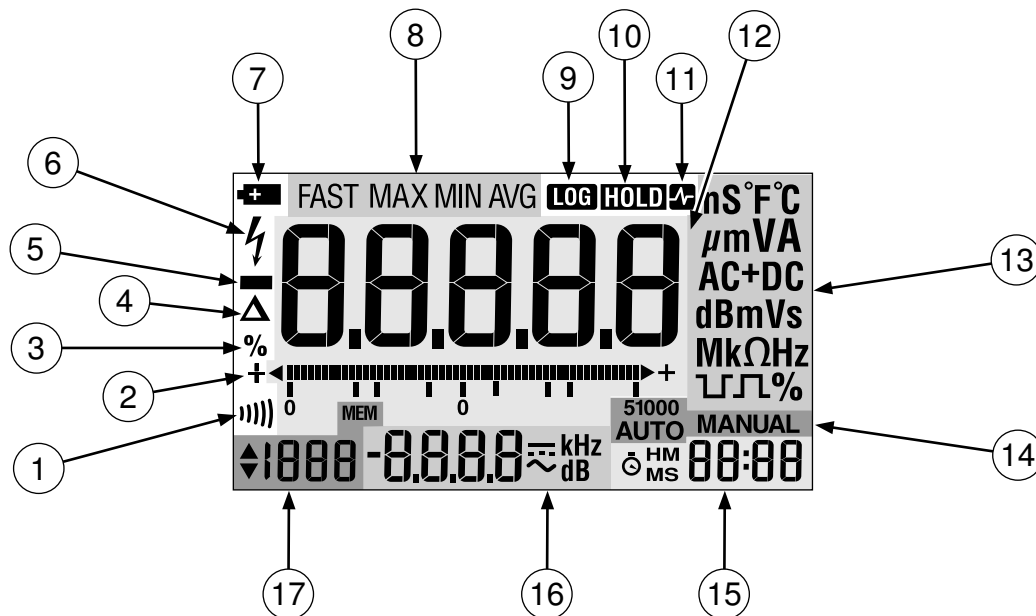

Figure 2-4. Display Features
Display features are shown in Figure 2-4 and described in Table 2-3. Major display features are described in the following paragraphs.
*You can show all display segments (as shown in Figure 2-4) by pressing **HOLD** while turning the meter on. Release **HOLD** to turn off the full display.*